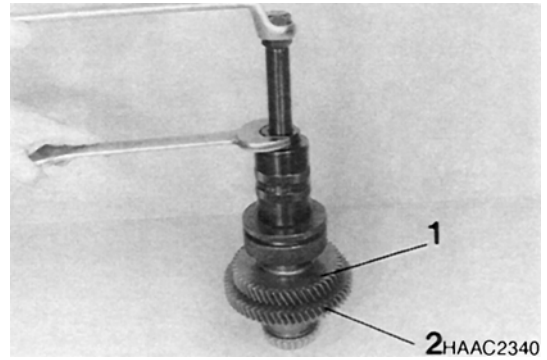

Figure 155
NOTE: *The separation of input shaft (1, Figure 155) and gear (2) is not possible (shrink fit).*